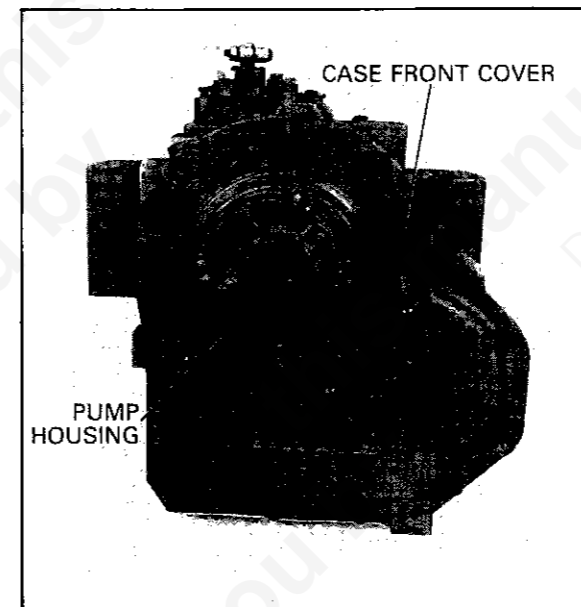

FIG. 51 PUMP HOUSING INSTALLATION
61. Assemble the pump housing and drive gear to front face of the case front cover. Locate the pump housing so that the pump bolt holes are aligned with bolt holes in the adapter and the arrows which are located at the bottom and also at the top of the pump housing are pointing to the right when assembling the pump (Fig. 51).